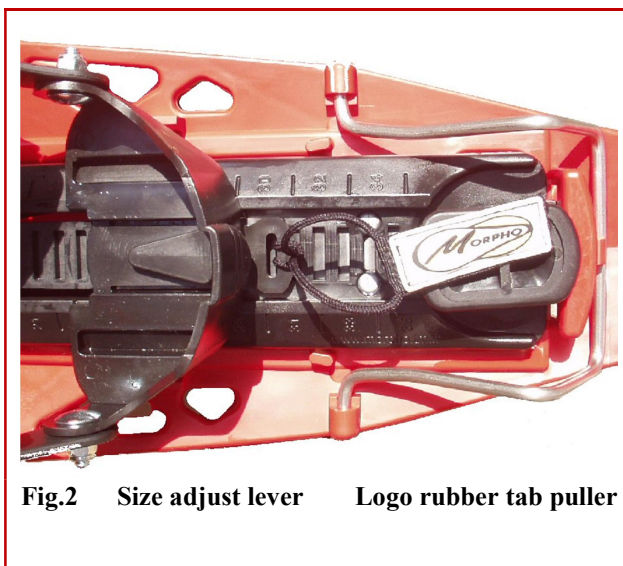
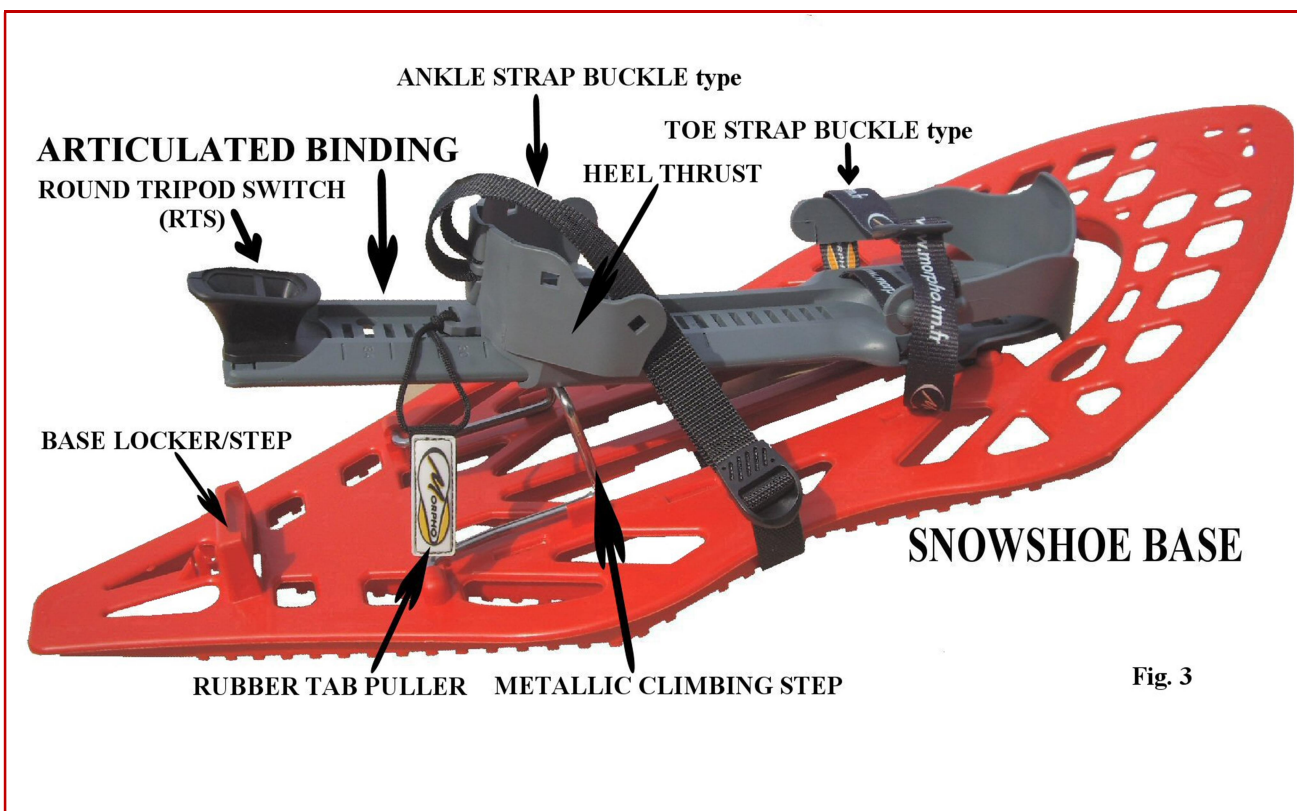

Fig.2 Size adjust lever Logo rubber tab puller
Fig. 3
1. Untighten **ankle strap** (by loosening completely the **Buckle strap** from the **buckle** of the strap) as well as the **toe strap** so as to insert your boots and to adjust the **heel thrust** of **articulated binding** plate to your boot size. See Fig.3
3. Adjust the heel thrust to the proper size of your boot using the Morpholock system. See Fig.2:
6. **Snowshoeing:** keep **articulated binding** plate free from snowshoe base when going flat, traverse, uphill or downhill: the **RTS** unlocked from base locker/step in all cases. The articulated binding must **lay flat** on the snowshoe base or **stepping** on the extra high **metallic climbing step** when climbing steep slopes: for this purpose rotate the **climbing step** forward in its upwards position (fig.3) from its idle position (fig.2) with your gloves.
7. **After use, untighten ankle strap** first: pull up the **buckle** of the strap and pull out the ankle strap from the buckle. Then untighten the toe strap: pull up the end of the quick buckle and loosen the webbing. See fig 3. Remove your boot. **To store** the snowshoe push the articulated binding on the base and lock it to the base by **rotating the RTS so as to insert it into the base locker/step**. See fig.2
.When rotating backward metallic climbing step to its idle position make sure to fully push it down until it is blocked by the snowshoe base **rear hook**. (fig.2)